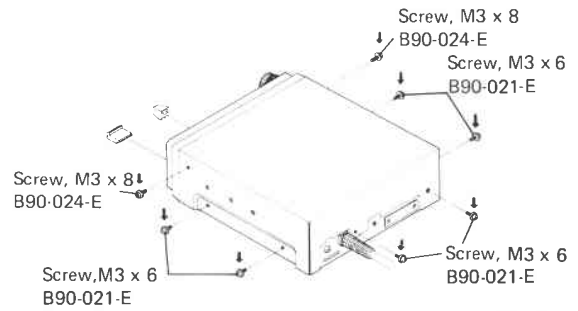

Fig. 8
1. Remove the screws marked with arrows, and then take off the case. (Fig. 8)
2. Remove the buttons (Fig. 8).